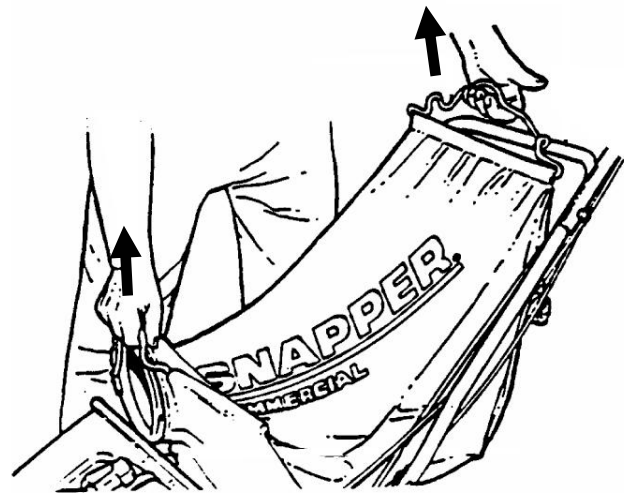

FIGURE 2.15
1. Grasp bag connector and bag handle as shown. See Figure 2.15.